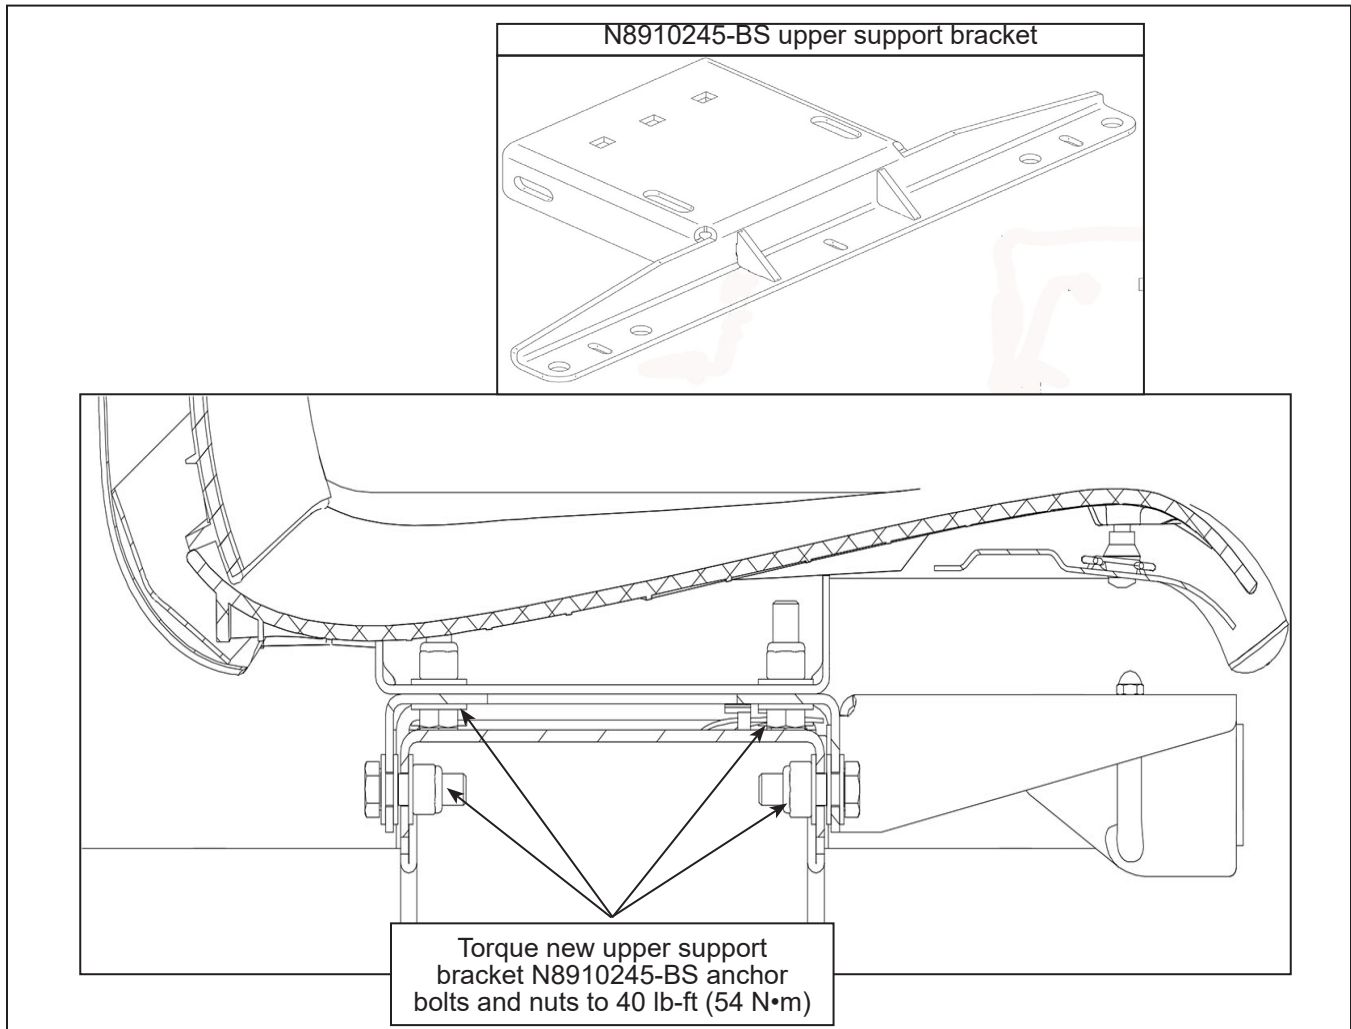

Figure 5 - Upper Support Bracket N8910245 Torque Value
- e. Install a new upper support bracket N8910245-BS on all the removed two-passenger seats using the retained hardware. See Figure 5 for installation details and torque value.